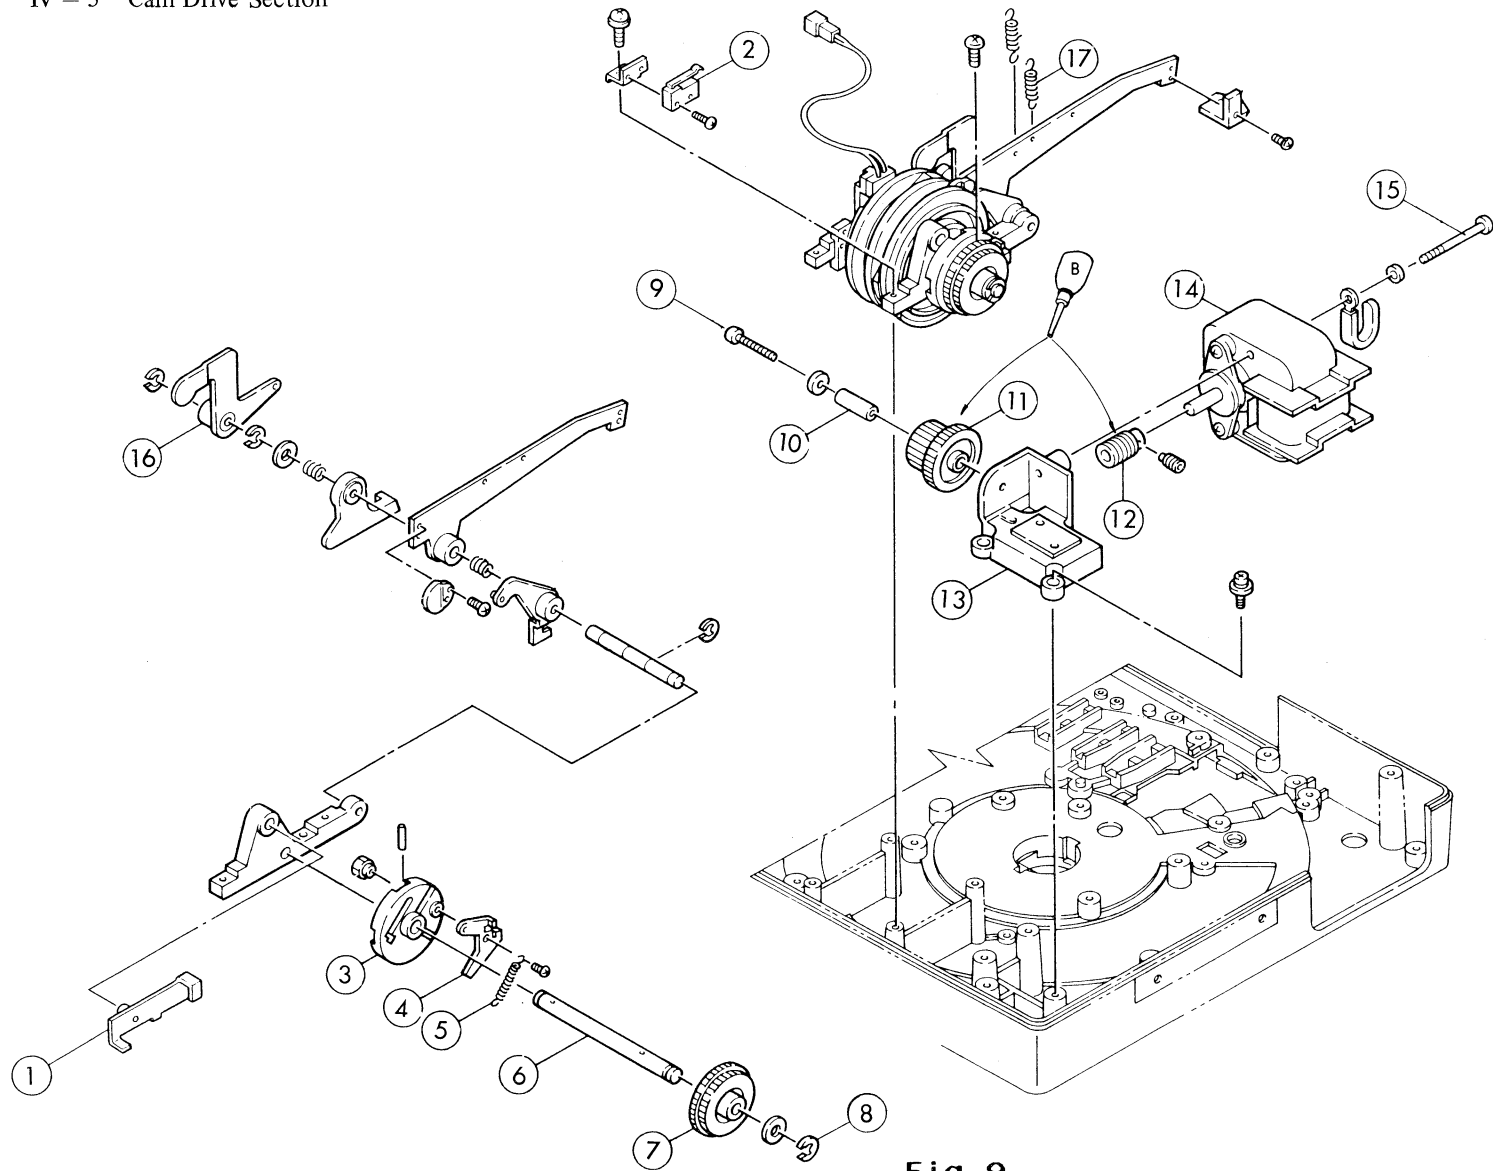

Fig. 9
IV – 5 Cam Drive Section (See Fig. 9)
1. Unscrew ⑮ to remove ⑭.
2. Unscrew ⑨ to remove ⑪ before pulling out ⑩.
3. Remove ⑧ to pull out ⑦.
4. See Fig. 9 for further disassembly.